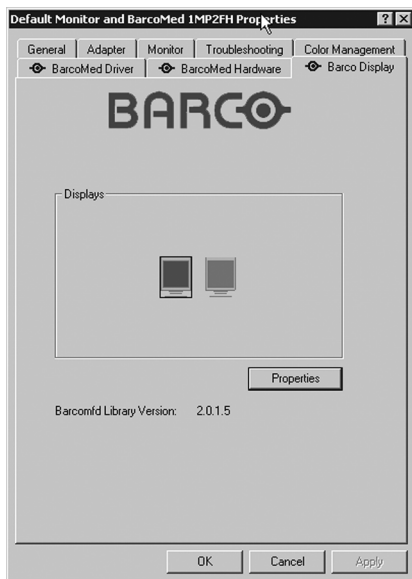

Figure 34: BARCO Display Tab under Windows 2000 and Windows XP
2. Under Windows 2000 and Windows XP, click on the “**Settings**” tab. Double click on the rectangle that represents the BarcoMed Display you are working with to bring up its properties page. Click on the “**BARCO Display**” tab (figure 34 below).